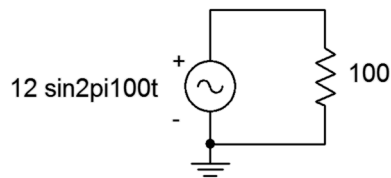

Figure 2.5
10. Draw the voltage and current waveforms for the circuit of Figure 2.5.